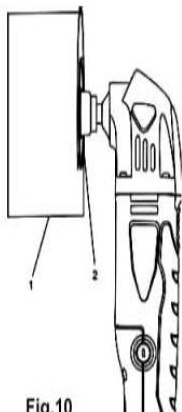

Fig.10
Place the outlet box on the drywall and use a soft lead pencil to trace the required rectangular hole (1) on the drywall (Fig. 10).
1. Place the corner edge of the saw blade (2) near the drywall in the middle of one of the cutting lines.